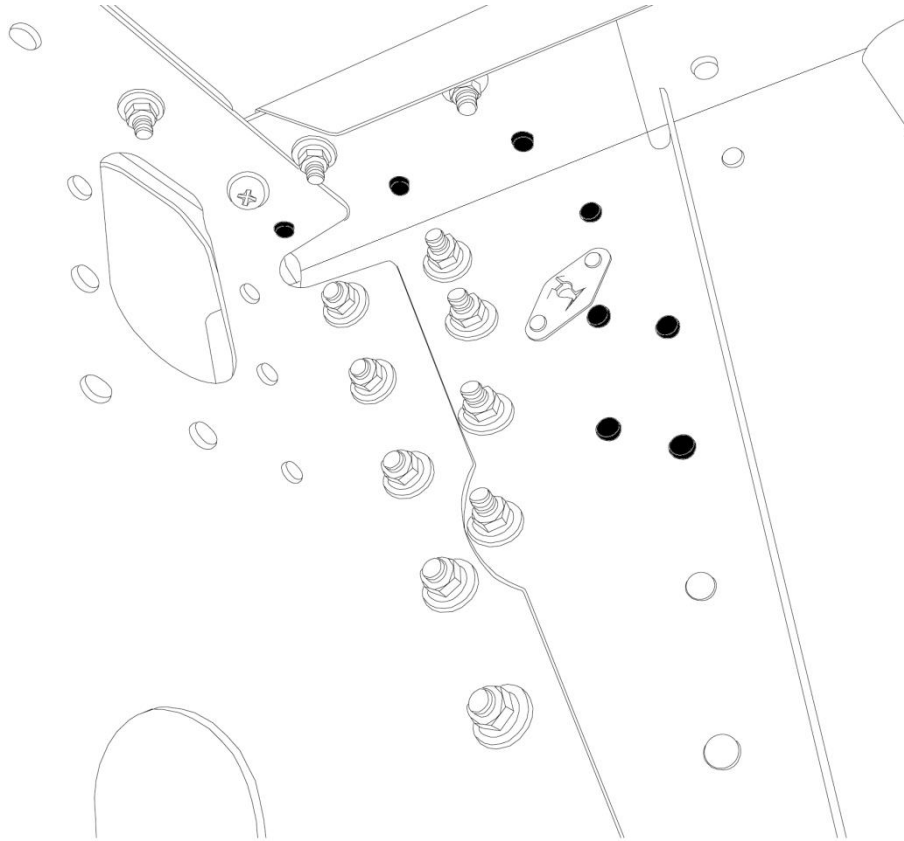

Figure 11 – Fasteners for Removal
- 1.5. Removing the fasteners identified in Figure 11.